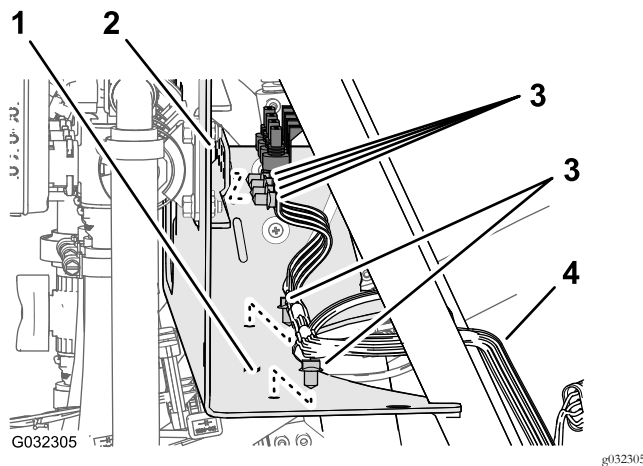

Figure 38
3. Remove the fir-tree anchors that secure the rear wire harness to the holes at the forward side and lower plate of the manifold mount (Figure 38).